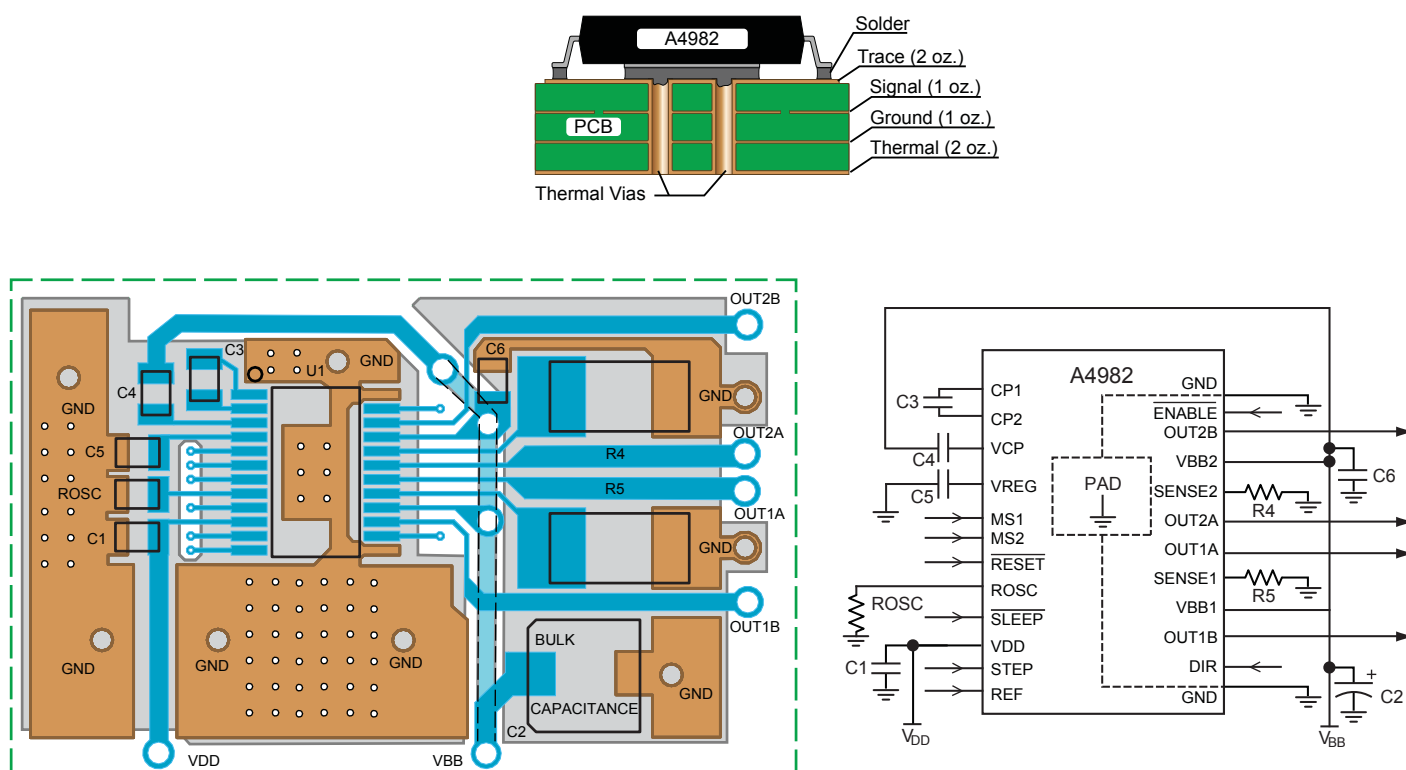

Figure 8. LP package typical application and circuit layout
**Layout.** Typical application circuits and layouts are shown in figures 8 (LP package) and 9 (ET package). The printed circuit board should use a heavy groundplane. For optimum electrical and thermal performance, the A4982 must be soldered directly onto the board. On the underside of the A4982 package is an exposed pad, which provides a path for enhanced thermal dissipation. The thermal pad should be soldered directly to an exposed surface on the PCB. Thermal vias are used to transfer heat to other layers of the PCB.